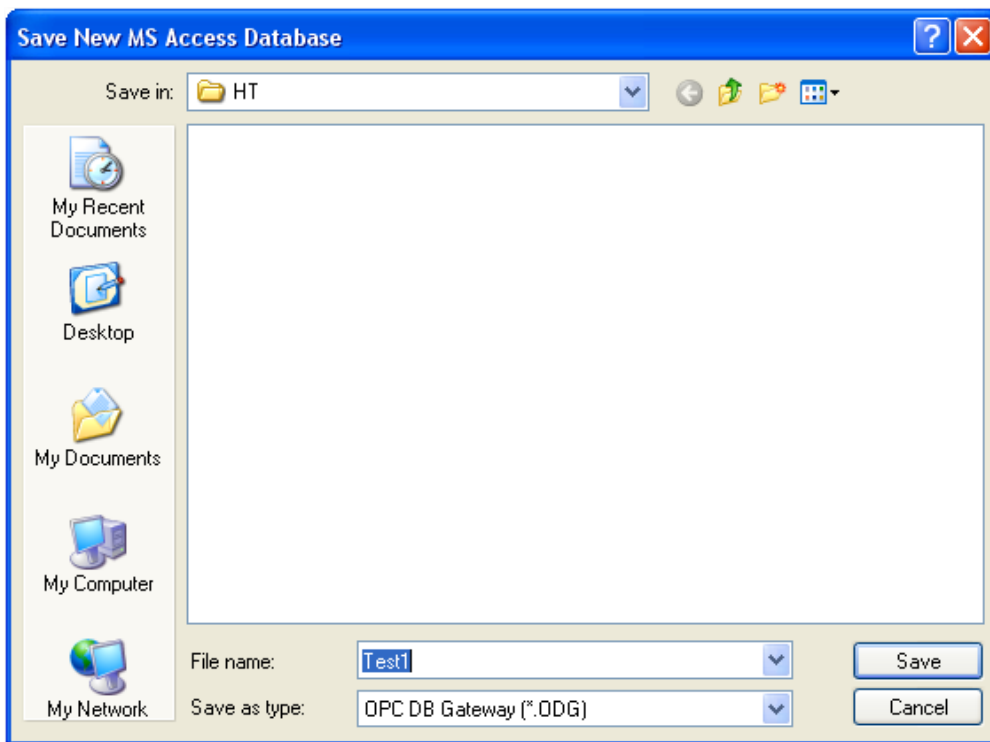

Figure 2: Creation of a new configuration for *OpcDbGateway*.
4. Click on the **Save** button (please see Figure 2).